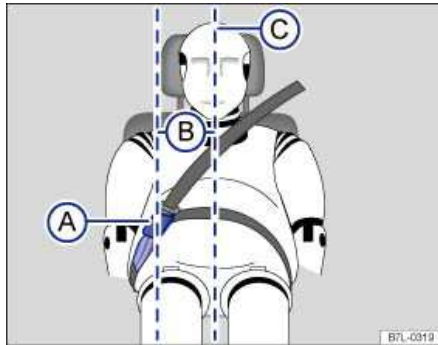

Fig. 71 Positioning of the safety belt extender.
#### Key to fig. 71:
- Never use a safety belt extender if the distance (B) between the front edge of the safety belt extender buckle (A) and the centerline of the person using the safety belt extender ⇒ fig. 71 (C) is less than 6 inches (15 cm).